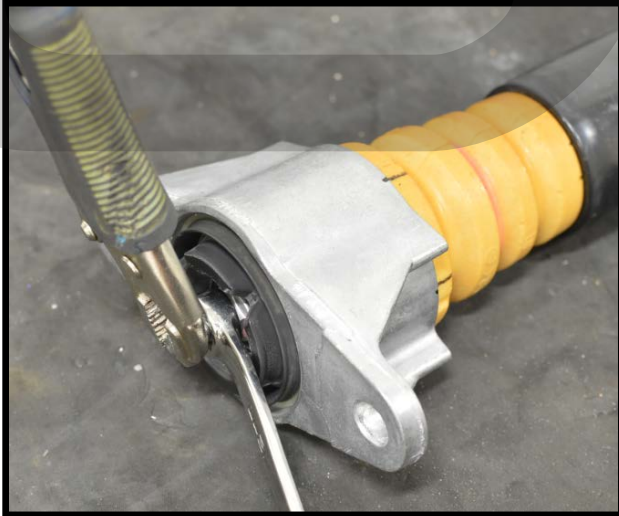

Figure 6a
- a) **Disassemble the rear strut.** Using a 12mm wrench and vise grips, remove the top hat, bump stop, and dust cover from the strut. **Shown in Figures 6a & 6b.**